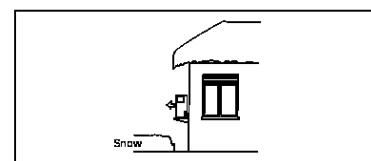

Fig.2
11. If the unit is installed in areas where heavy snowfalls may occur, it is necessary to raise its level at least 200 mm above the usual snow level or alternatively use the outdoor unit bracket kit. (fig.2)